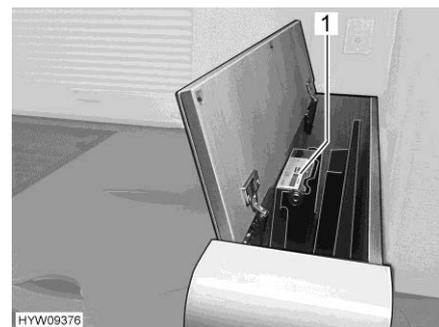

Fig. 89 Flat screen (lowered)
- Manually lowerable flat screen: Lightly press the lifting mechanism (Fig. 89,1) downwards to release the spring. The flat screen automatically moves upwards.